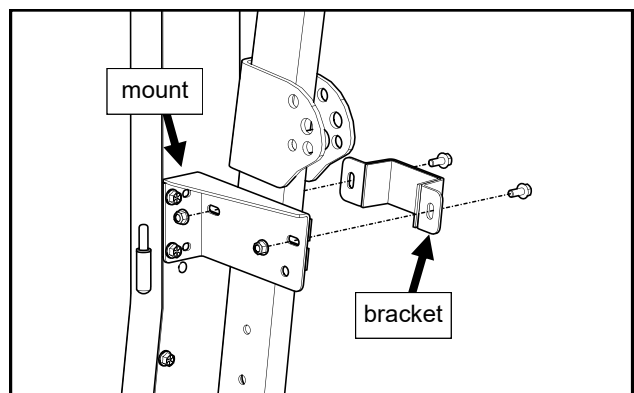

Fig. 9.1 (ROPS bracket installation - left)
**9.1** Install the left ROPS mount onto left side frame (through the rear leg ). Next, install ROPS bracket onto mount—no plastic washer on bracket. See fig. 9.1. Repeat the process for the right ROPS mount and bracket.